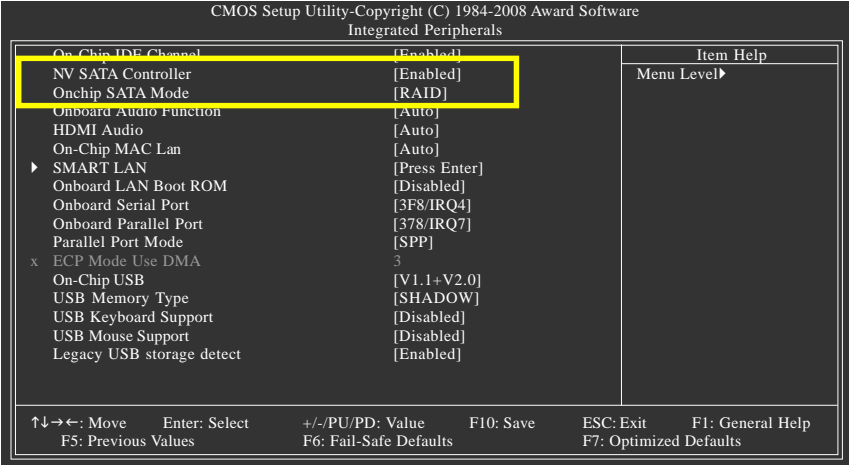

Figure 1
**SATA Mode** to **RAID** (Figure 1).